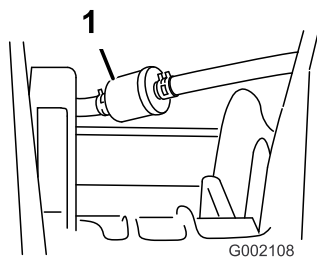

Figure 46
5. Remove the clamps securing the fuel filter to the fuel lines (Figure 46).